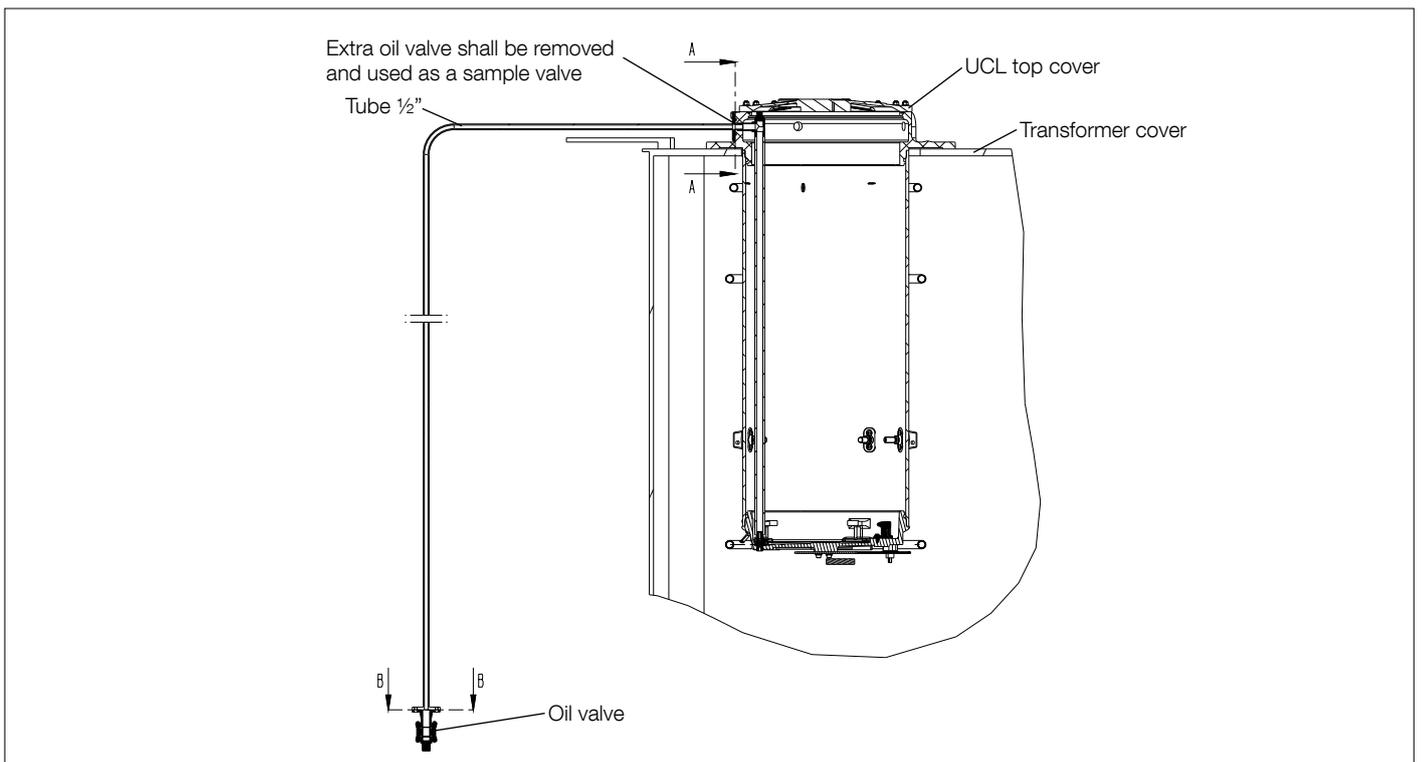

Fig. 47. Extra oil sampling valve. The valve is removed and then refitted at the end of the sampling tube.
- The tube, through which oil samples are taken, must be connected to a sample pipe, see Fig. 47. The tube shall be of ½ inch.
4. Pump oil into the diverter switch housing via the oil valve, see Fig. 47 (for connection dimensions, see the dimensional drawing for the tap-changer).